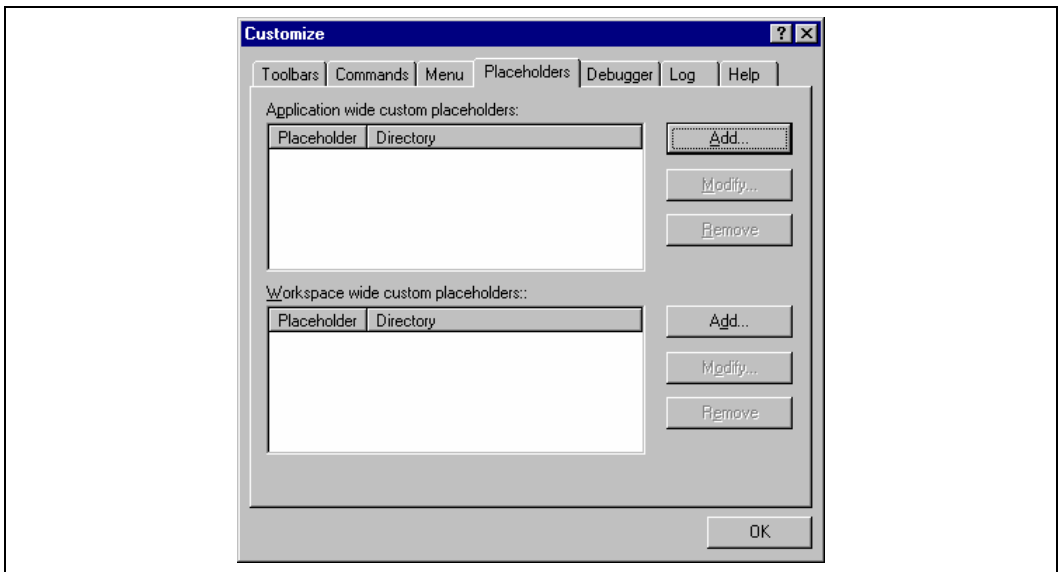

Figure 6.14: Customize Dialog Placeholder Tab
1. Select **[Tools->Customize...]**. The dialog shown in figure 6.1 will be displayed. Select the “Placeholders” tab (figure 6.14).